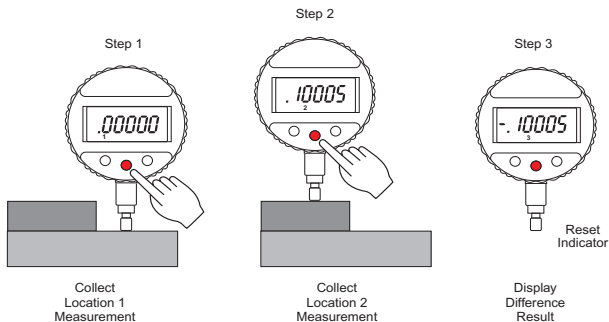

Figure 33 - Difference Mode
When the difference mode is set for operation the display will show a flashing “1” icon. This is the prompt to collect the reading for the 1st measurement (Figure 33, Step 1).
- 1) Press and release the **M/OFF** button (step 1) to collect the first measurement into memory. The indicator will then flash the number “2” icon. Move the indicator to the 2nd location to be measured. See Figure 33.